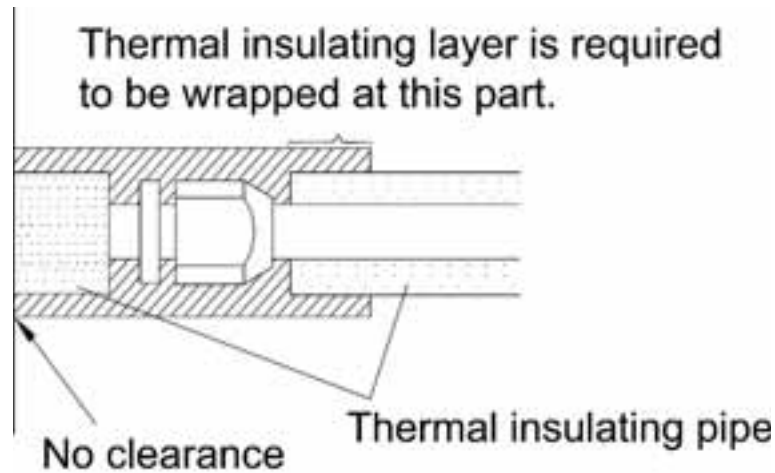

Fig.24
- 2) For heat pump unit, liquid pipe should withstand at least 70° C (158°F), and gas pipe should withstand at least 120° C (248°F). For cooling only unit, both liquid pipe and gas pipe should withstand at least 70° C (158). Example: Polyethylene foam can withstand 120° C (248°F) and foaming polyethylene can withstand 100° C (212°F).
- 3) Joints at indoor and outdoor units should be wrapped with insulating material. No clearance should be left between pipe and wall. See Fig.24.